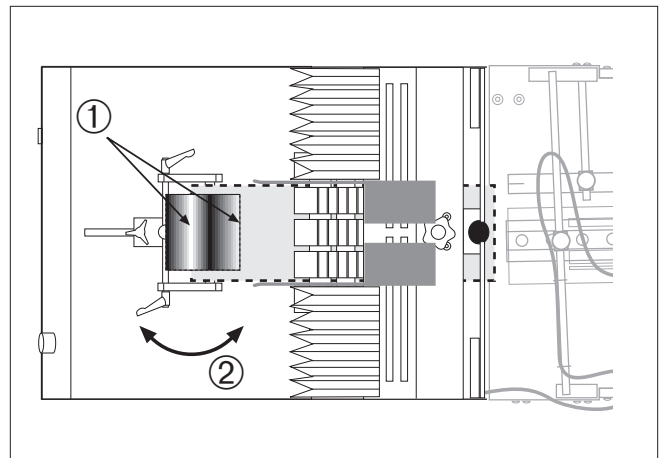

Figure 14B. Adjusting Back Wedge for Parallel
6. Make sure the edge of the back wedge assembly is parallel with the edge of the envelope stack (Figure 14B, ①). Adjust as required and then tighten the wing-nut (Figure 14B, ②).